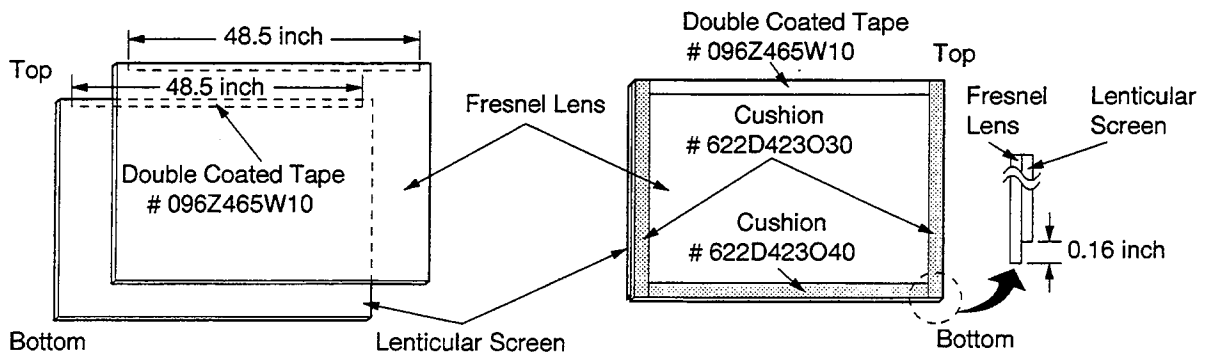

Fig. 5-6
1. Apply Double Coated Tape(# 096Z465W10) along the top front edge of the Fresnel Lens. [Fig. 5-6]